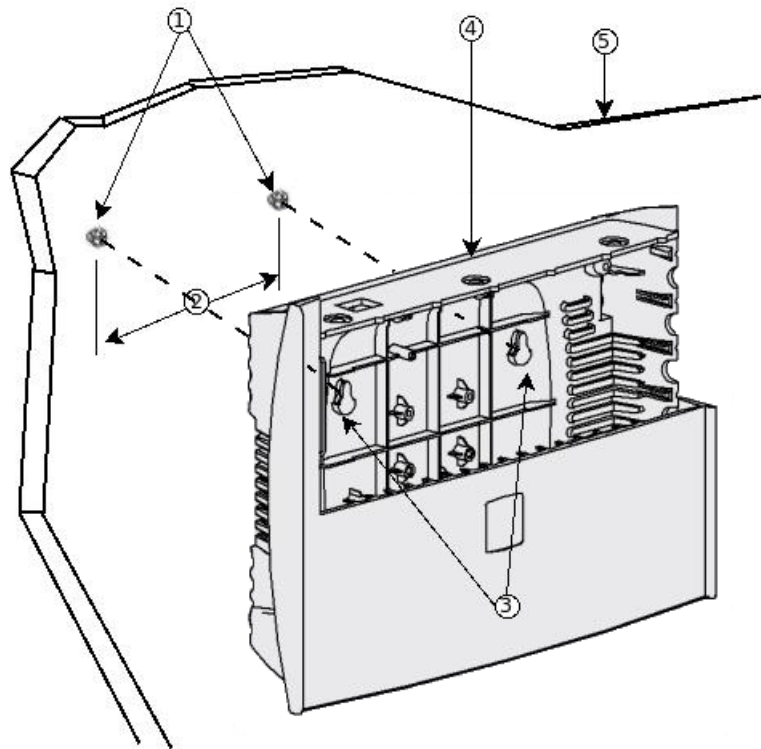

FIGURE 9. WALL-MOUNTING FEATURES ON THE TELDAT V ROUTER
Step 2 Hang the router on the screws. This is the appropriate orientation for safe use. (See Figure 9)